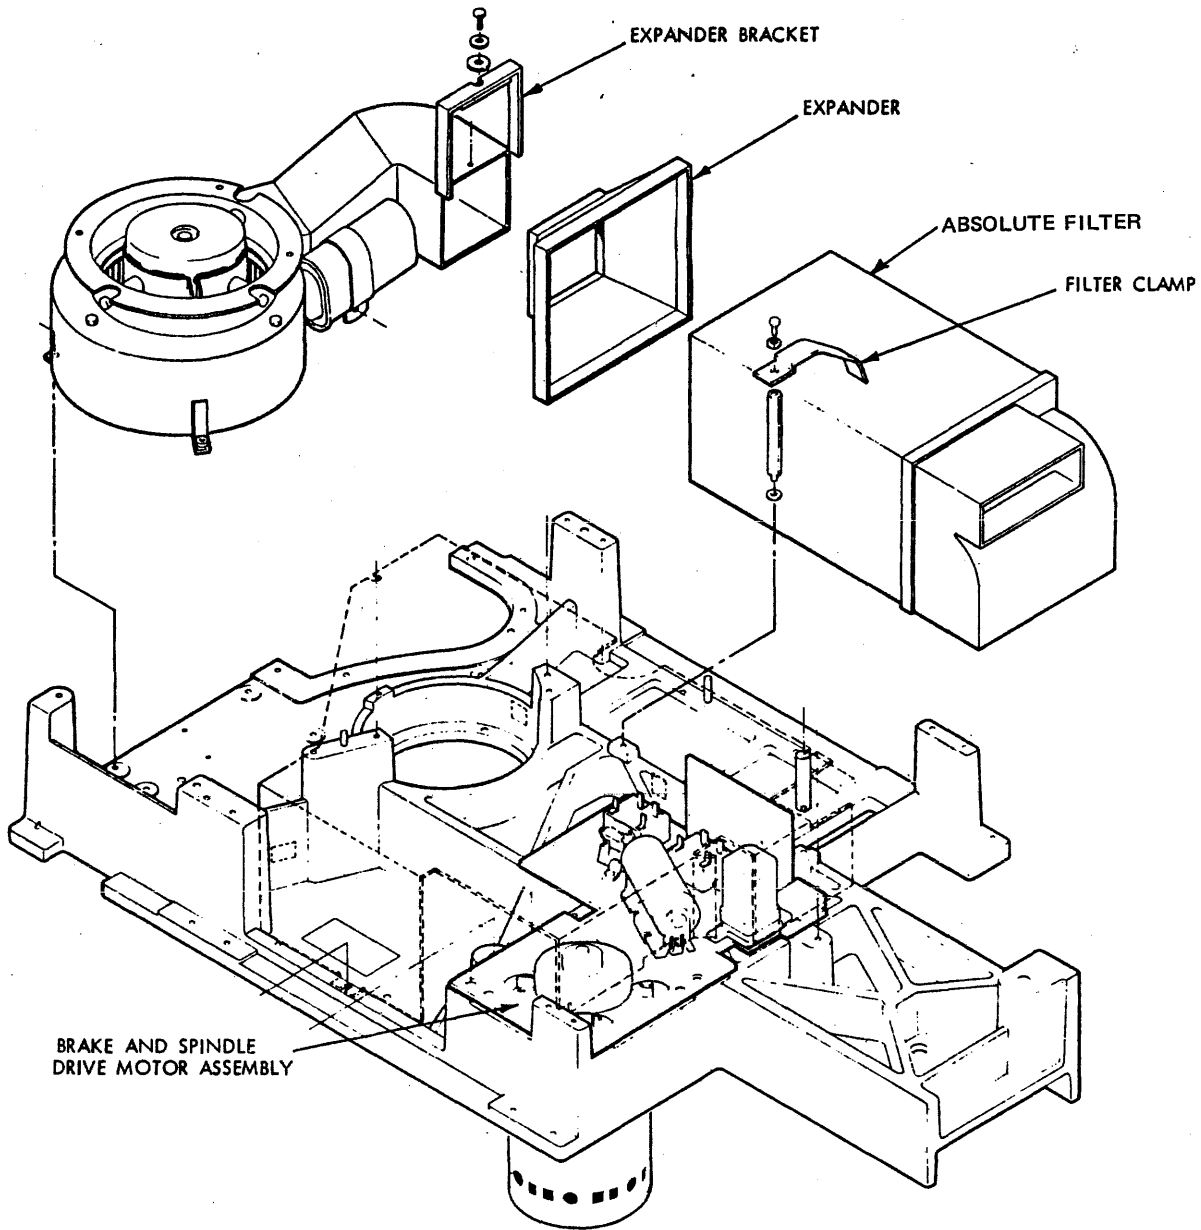

Figure 2-1. DS10 Disk Drive Filter Mounting
2.3.4 PM 180 PROCEDURE. PM 180 should be performed in accordance with the following procedure. Refer to figure 2-1 when changing the absolute filter.